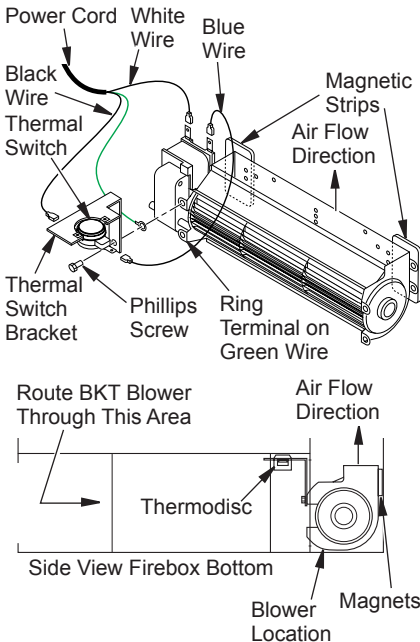

Figure 29 - Blower Model BKT
1. Place green ground wire with ring terminal between bottom hole on thermal switch bracket and top ear hole on blower assembly. Insert Phillips screw into all three pieces and tighten securely (see Figure 29, page 19).
- Place blower against lower rear wall of firebox outer wrapper with exhaust port directed upward and thermodisc positioned up near fireplace bottom. Thermodisc must be oriented near fireplace bottom as shown in Figure 29, in order to sense temperature and properly operate. Blower will be held in position against back wall by magnets incorporated onto blower housing (see Figure 29).